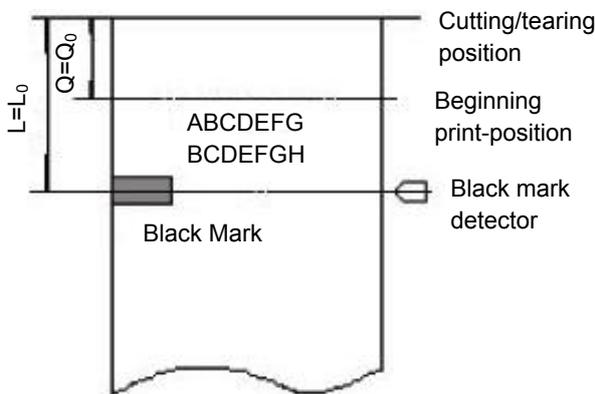

Figure 7-2
1. When the distance L between the cutting/tearing position and the black mark position is the same with the inherent mechanical value  $L_0$  of the printer, and the distance Q between the cutting/tearing position and the beginning print-position is the same with the inherent mechanical value  $Q_0$  of the printer (shown as figure 7-2), all the offset value set by "GS ( F" command is 0.